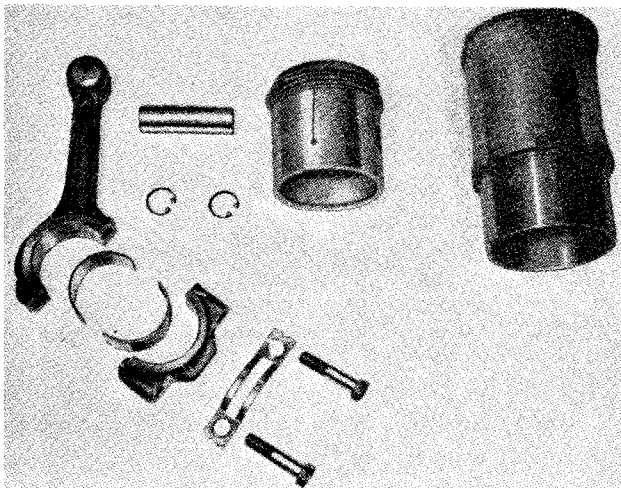
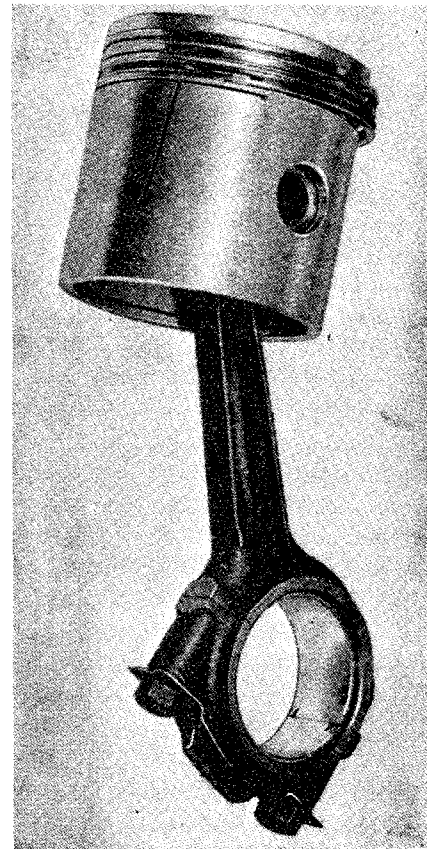

Fig. 6 The Piston and Connecting Rod Assembly in exploded form.
Fig. 7 The Piston and Connecting Rod Assembly. Note position of cap in relation to split in piston skirt.
(d) **The Connecting Rods** (Fig. 6) are molybdenum manganese steel stampings being provided with phosphor bronze small end bushes and precision type big end bearings. The rod is drilled from the big end bearing end to the small end bearing to provide for the passage of oil under pressure from the main supply. The big end bearing cap is of a special design, the cap securing bolts being inclined at an
- (e) **Aeroflex Compensating Pistons** (Fig 6) are employed, which are made from a special aluminium alloy and each provided with two compression rings and one oil scraper ring. The pistons are graded F, G or H (dimensions on page 2) and this symbol is stamped on the crowns. The piston skirt has a $\frac{1}{32}$ " slot on the non-pressure side and is fitted to the connecting rod so that this slot is away from the point of maximum thrust, Fig. 7 (facing the camshaft side of the engine).